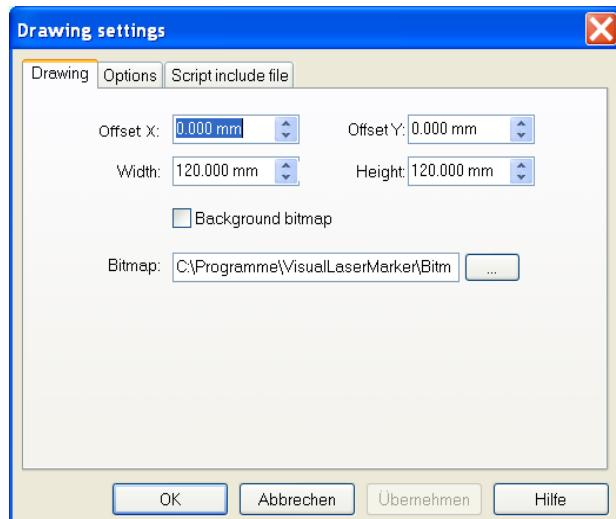

Fig. 7.1/1 Dialog field page Drawing area
- In the **Offset X** and **Offset Y** input fields, enter the corresponding values (» Fig. 7.1/1).